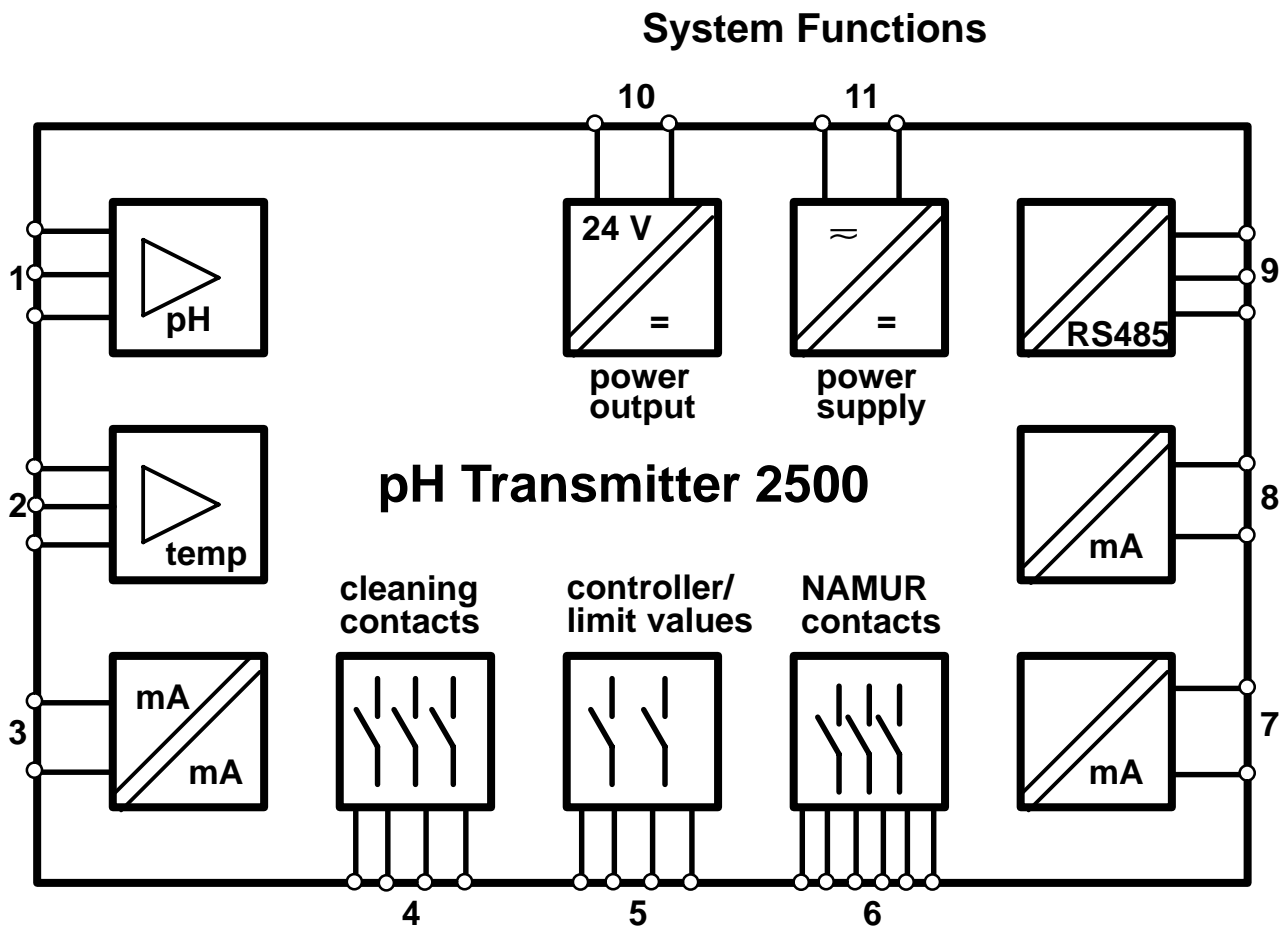

Fig. 1–1 System Functions pH Transmitter 2500
Fig. 1–1 shows the versatile system functions. In addition to the obligatory inputs for sensing and reference electrode (1) and temperature probe (2), an **equipotential bonding electrode** can be connected, which at the same time serves as **auxiliary electrode** for electrode monitoring. When a suitable electrode – such as platinum – is connected, pH value and **oxidation-reduction potential (ORP)** can be measured simultaneously. As a result, also the pH-compensated ORP – the so-called **rH value** – can be calculated and displayed.